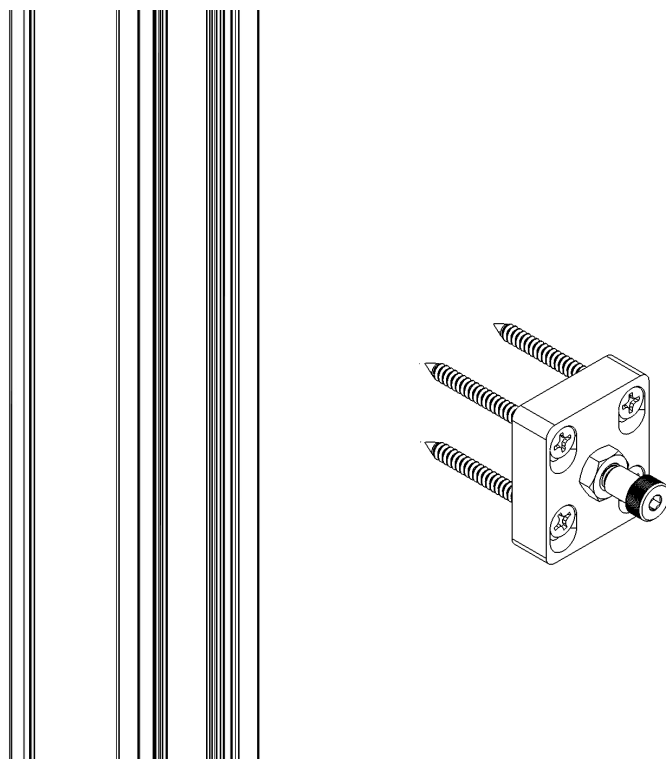

Figure 15
16. Drill four (4) 3/16" clearance holes at the marked locations of the strike plate. Anchor the lock strike to the jamb with #10 x 2" PH Flat Head screws. Shim as needed to avoid bowing the frame. (See Figure 15).